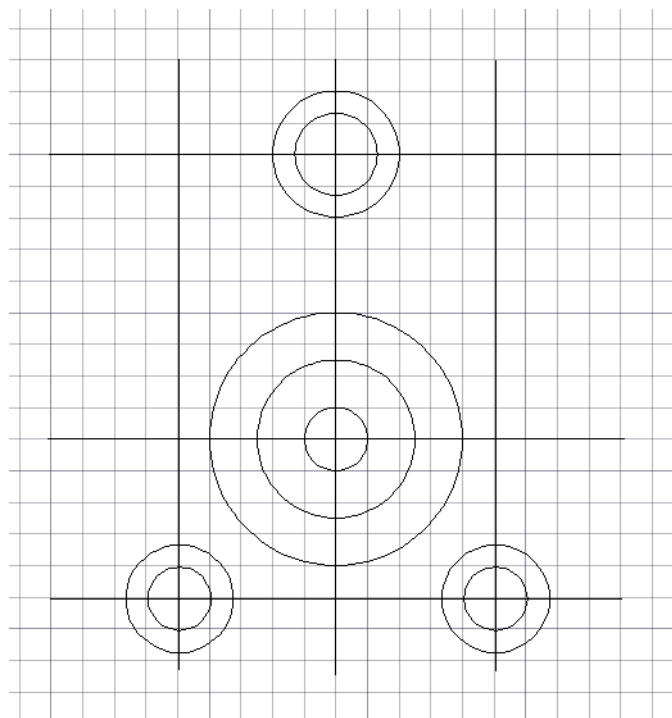

Figure 4.2 – Circles drawing
4.2.3 We draw circles. To do this, select the "Circle" command from the "Draw" panel. Then, on the command line, the program will ask you to specify the center (center is the point of intersection of the auxiliary lines, in the center of the drawing), and will also ask you to specify the diameter. Enter the value of the circle diameter equal to 20 mm into the command line. The remaining circles have diameters of 50mm, 80mm, 40mm, 26mm, 20mm and 34mm. We build them according to the same principle, setting the centre's at the intersection points of the auxiliary lines (figure 4.2).